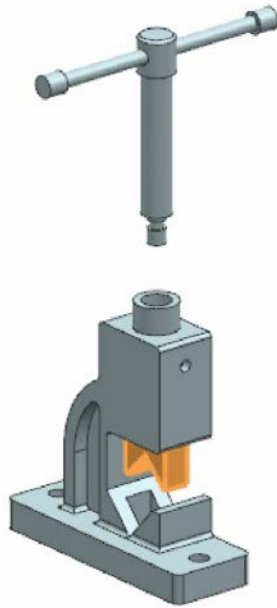

Figure 9-48 The Movable Jaw selected for explosion
2. Select the Movable Jaw from the assembly, as shown in Figure 9-48, and then select the **Move Objects** radio button from the **Edit Explosion** dialog box; a dynamic triad is displayed on the Movable Jaw.